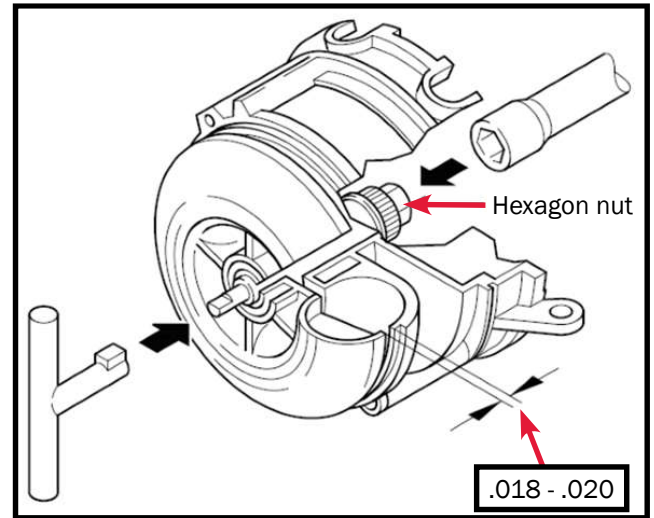

Figure 89a
- Place a feeler gauge between the combustion air blower and the flat surface of the blower casing. Slowly tighten (or loosen) the retaining nut, holding the combustion air blower, until a .018 - .020 gap is achieved. Remove feeler gauge. Reference Figure 89a.